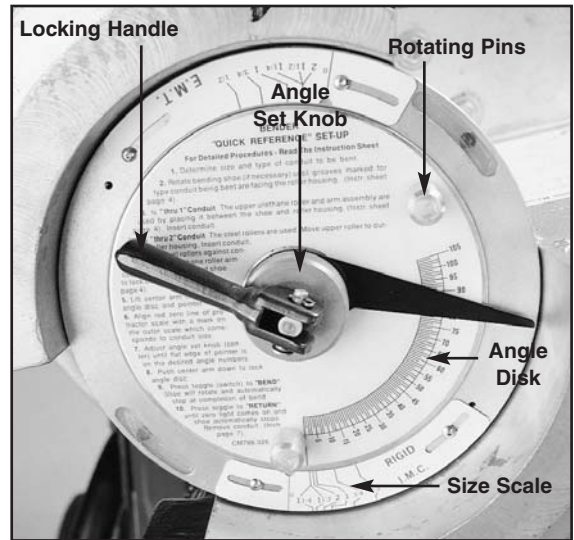

Figure 6. Set Angle Scale
- a. Lift the locking handle. See Figure 6. Use the two small pins to rotate the angle disc, clockwise, until the red zero line is directly in line with the zero line on the size scale.
- c. Move the bend angle set knob (See Figure 6) until the flat edge of the pointer is on a line indicating the exact degree of bend desired. Lower the center arm to lock the pointer and scale and to prevent inadvertent movement during bending.